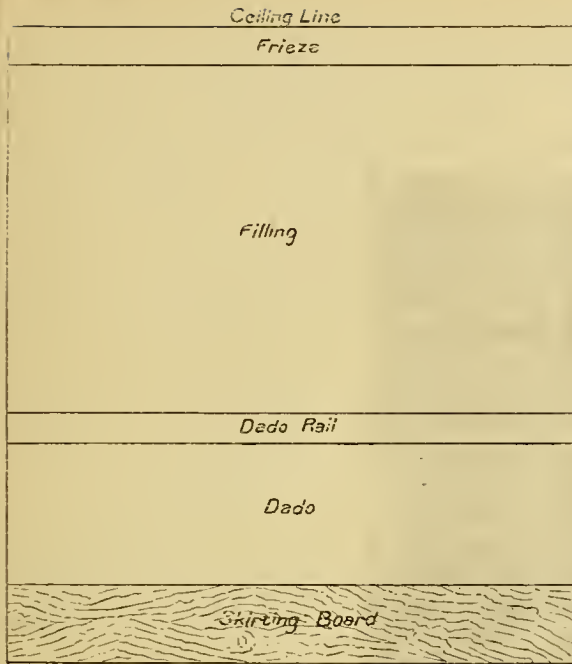

FIG. 16 Side of room outlined for papering
*Dado, Filling and Frieze.*—Nothing, in our opinion, makes a room look more cosy and comfortable than a dado and frieze running round it. With the aid of a helpmate, we first of all run the chalk line round the room, as in Fig. 16. In doing this it all depends upon the pattern of the paper to be used, as to how many lines will be needed. In some papers the border above the dado is on the same piece as the dado, whilst in others it is separate, and sold at so much per yard. In the diagram, Fig. 16, we will take it that the border and the dado have to be used in separate parts, and draw our lines accordingly. In making our measurements we must make sure whether the skirting and ceiling are level or not, and, if not, the best arrangements possible under the circumstances must be resorted to, in order that the distance between frieze and dado shall be as near equal as possible all round the room. In very old houses it is sometimes found necessary to cut away a portion of the top of frieze, or some of the dado at bottom, in cases where the ceiling and floor are very bad. It is, however, impossible to lay down any stated rule for any case, as no two cases would probably be found alike. Having marked out the room, we now cut the "filling" to the proper lengths, paste, and lay on all round the room; when finished, next comes the frieze decoration at top, taking care that it is cut true, and that the bottom of it exactly meets the top of "filling," not allowing
Figs. 16 and 17 will make this matter clear. In Fig. 16 we see the eye placed just behind the focal point, a. Consequently, the beam of light, x, after passing through the lens, b, b', is refracted to the point, a. The eye being placed